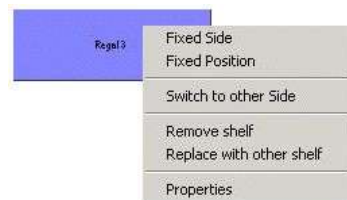
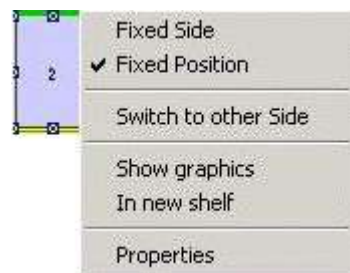

Figure 199: Shelf Contextual Menu
Figure 202: Loading Unit Contextual Menu
- You can execute the corresponding functions via either of the contextual menus, shelf or loading unit. *Please refer to the Figure 199 and Figure 202.*
- 5) Select **Remove shelf** in the contextual menu of the selected shelf. *Please refer to the Figure 199.*